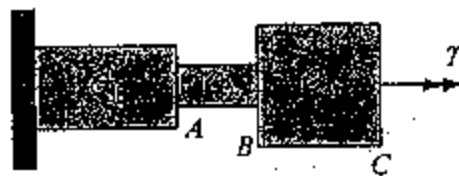

Fig. 4.2
(2) A segmented torsional member is acted upon by the torques shown in Fig. 4.2. The C_i represent the torsional spring constants $C_i = J_i G / L_i$. Determine the rotation at points A and B using Castigliano's second theorem. (Hint: the complementary strain energy can be expressed as $U^* = \int \frac{T^2}{2J_i G} dx$) (10%)